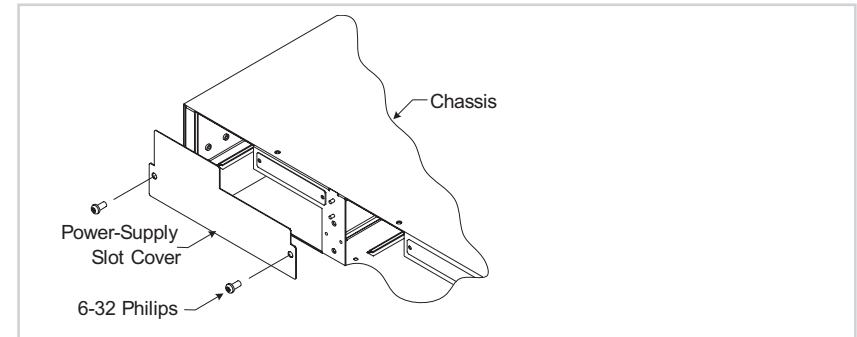

Figure 5: Remove Chassis Power-Supply Slot Cover
2. Remove and keep the two (2) 6-32 philips head screws securing the power supply slot cover on the rear of the chassis and remove it. See Figure 5.